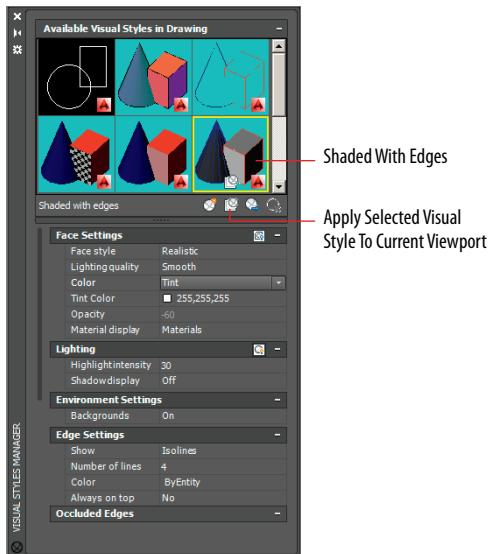
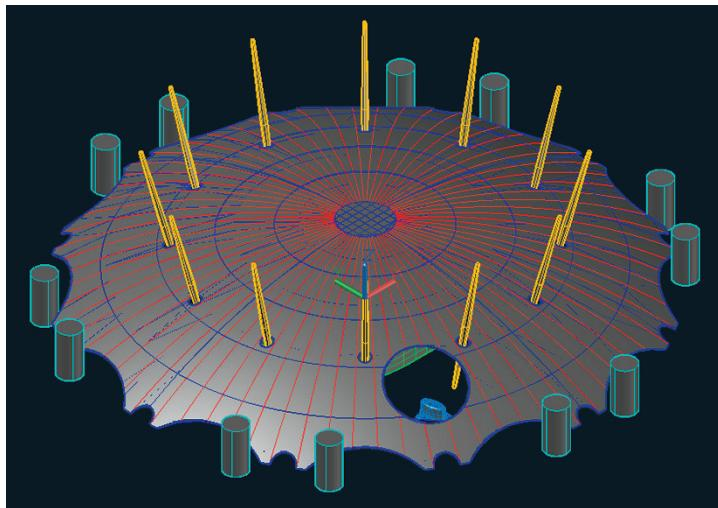

FIGURE 16.4 Visual Styles Manager
FIGURE 16.5 The altered Shaded With Edges visual style displays the model tinted with white.
4. Select the ribbon's View tab and select the Visual Styles icon in the Palettes panel to alter visual style settings. Scroll down the list of Available Visual Styles In Drawing, and select Shaded With Edges. Change Color to Tint in the Face Settings group (see Figure 16.4).
5. Select the Apply Selected Visual Style To Current Viewport button, as shown in Figure 16.4. Close the Visual Styles Manager. Figure 16.5 shows the result in the drawing canvas.